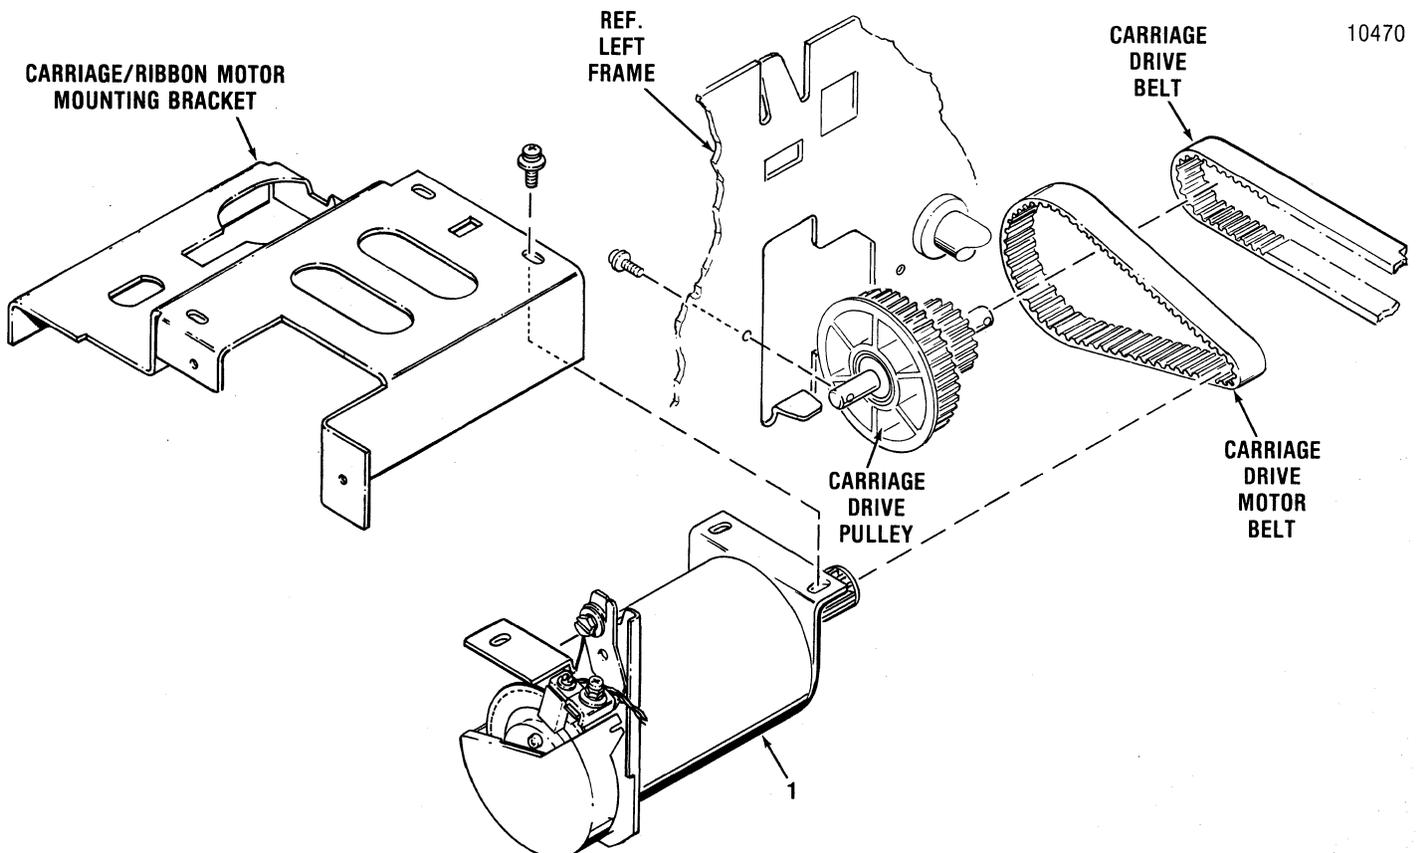

Figure 5-10. REMOVAL/REPLACEMENT, CARRIAGE DRIVE MOTOR
The carriage drive motor, item 1 of Figure 5-10, is attached to the carriage drive motor and ribbon drive motor mounting bracket and is removed using a Phillips head screwdriver. To remove the carriage drive motor, refer to Figure 5-10 and perform the following steps: